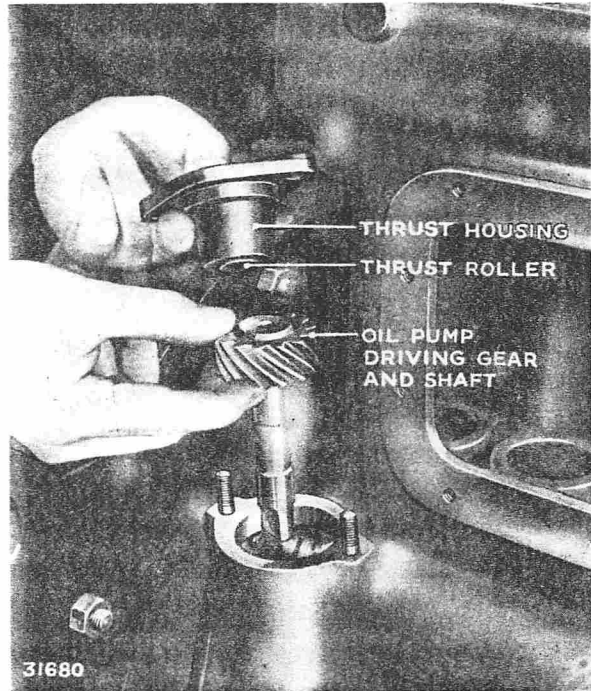

FIG. 87. FITTING OIL PUMP DRIVE GEAR AND THRUST HOUSING
3. To inspect the oil pump driving gear. Remove the thrust housing on the rear right-hand side of the engine-block and withdraw the gear (Fig. 87). Backlash between the two gears should be .004 in. to .008 in.